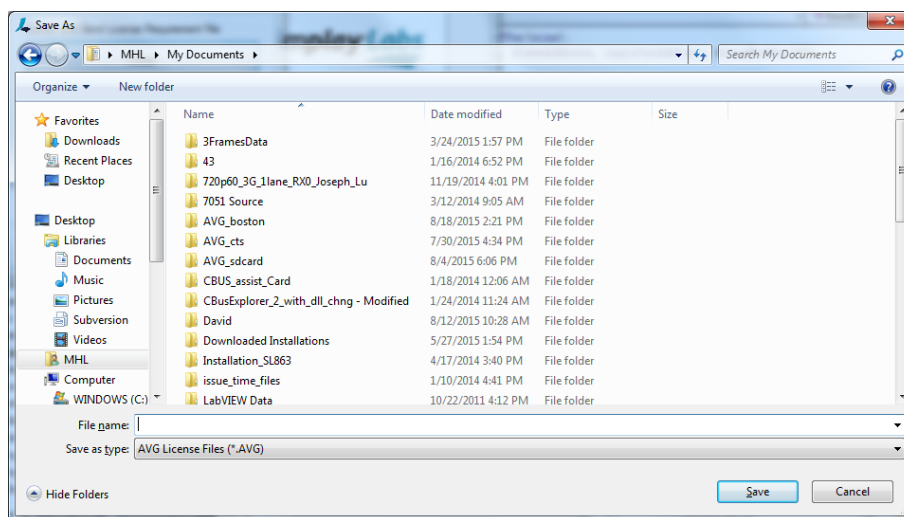

Figure 3.12. The Windows Save As Dialog
8. The Windows Save as dialog pops up (Figure 3.12). Save this license requirement file to your test computer.